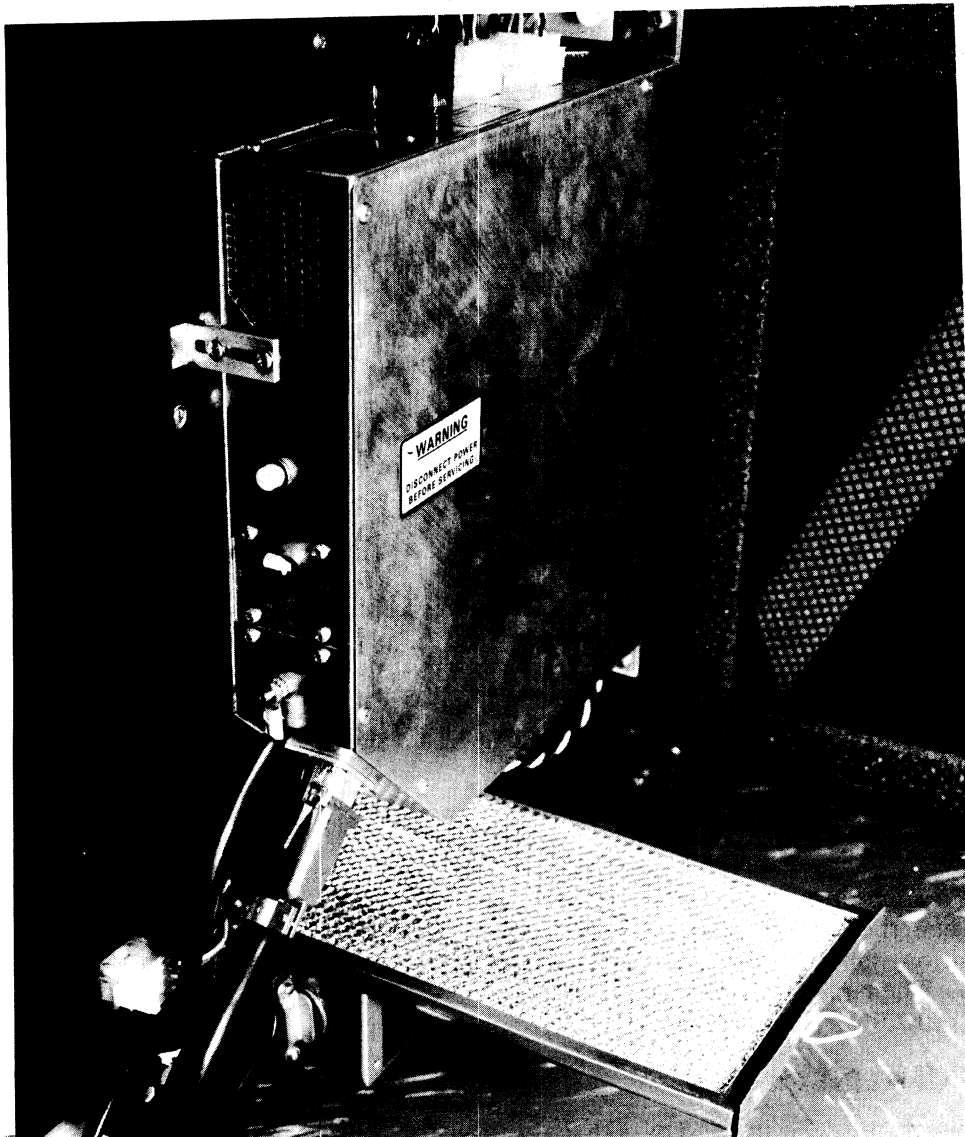

Figure 3-2. Circuit Breaker and Filter
Power is controlled by a circuit breaker located behind the rear door and in the lower right-hand area (see Figure 3-2). When the circuit breaker is set to the ON position, an indicator above the switch lights as well as various indicators (including AC PRESENT) on the operator control panel.
2. Set the circuit breaker located at the rear of each tape unit (Figure 3-2) to the up or "on" position.